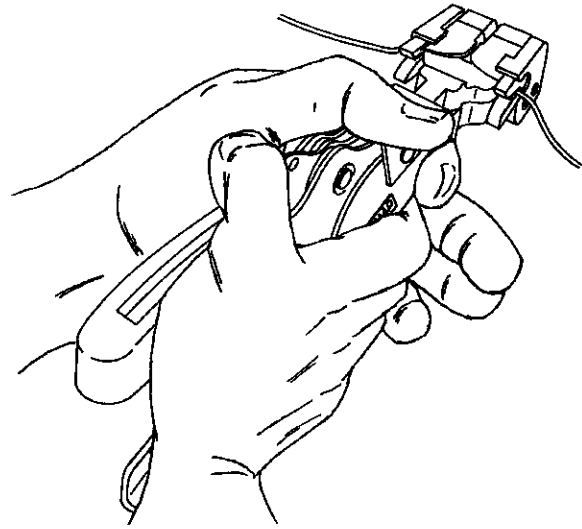

Figure 4
1. Grasp the front portion of the fixed (lower) handle with one hand and use the other hand to close the moving (upper) handle. See Figure 4.